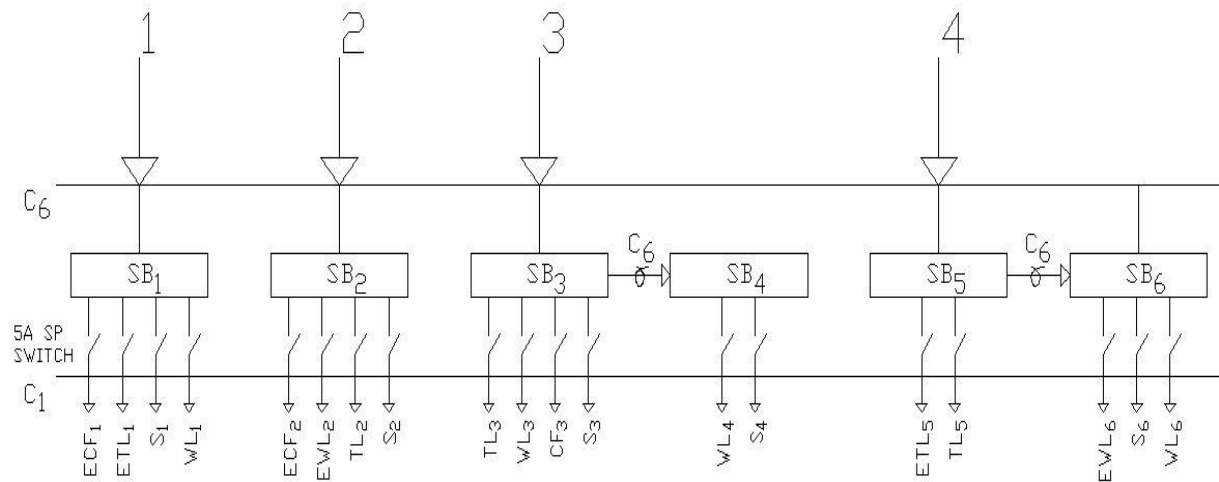

Fig. 9.1: Circuit Diagram
- Below the rectangle draw the line and arrow for ECF₁ as shown in Figure.9.1. Select the arrow and line and make an array of 4 columns and 1 row using them.